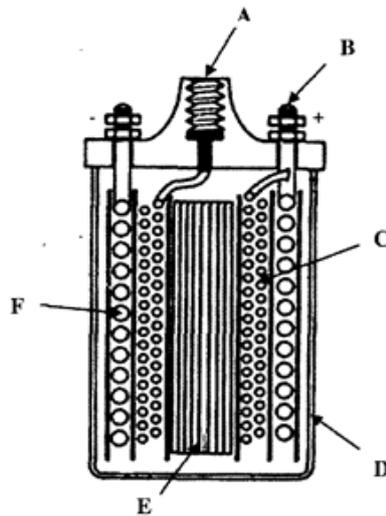

Figure 1
- (c) (i) Figure 1 shows one of the components in the ignition system. Study the figure carefully and answer the questions which follow:
- Give the function of the component indicated by Figure 1.